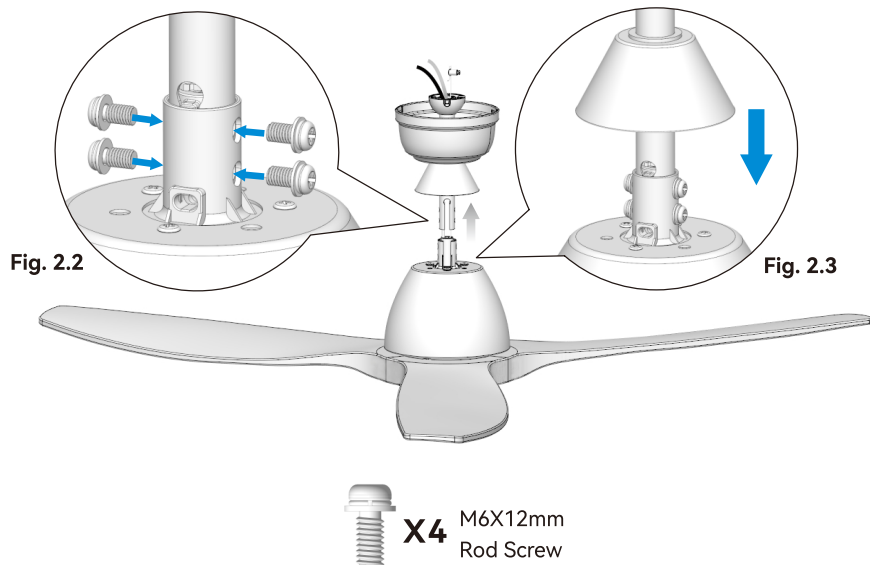

Fig. 2.1
2.1 Assemble the downrod as shown in Fig. 2.1. Insert the downrod through the canopy and wiring cover. Thread the motor wires through the downrod, pull out the slack from the motor wires and safety rope upward, and insert the downrod into the collar on top of the motor housing. Align the holes at the bottom of the downrod with the holes in the collar on top of the motor housing.